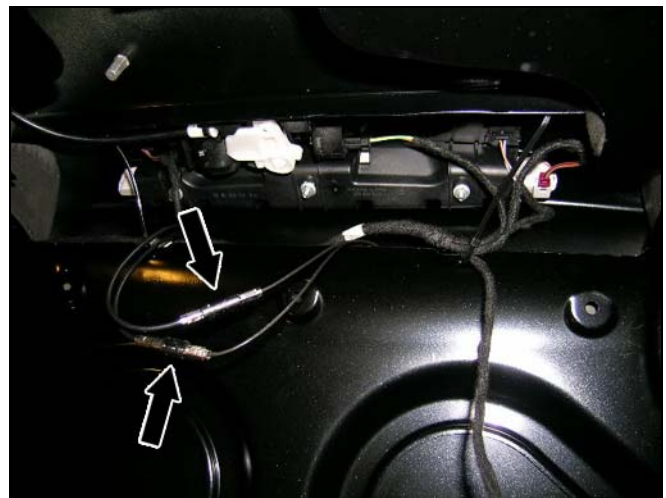

Figure 8
12. Connect the SDARS antenna leads to the preinstalled antenna leads (Figure 8).